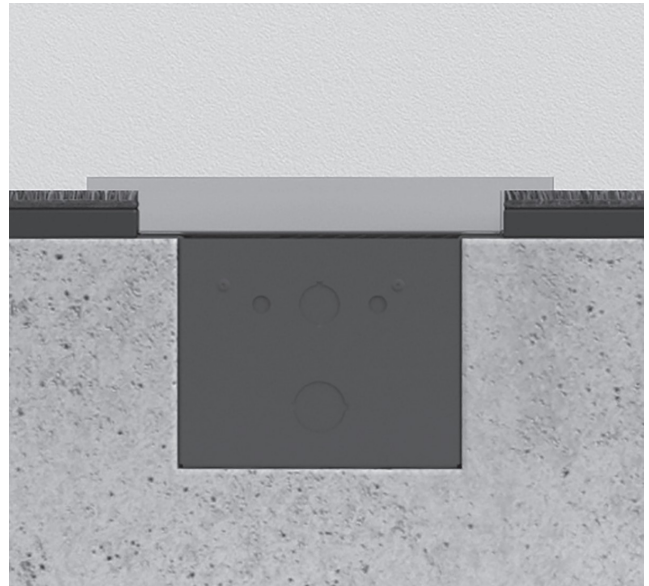

Figure 5B: Concrete Pour – Surface Grille
- Surface Mount: trim package may rest on top of flooring, including carpeting and linoleum. See Figure 5B.